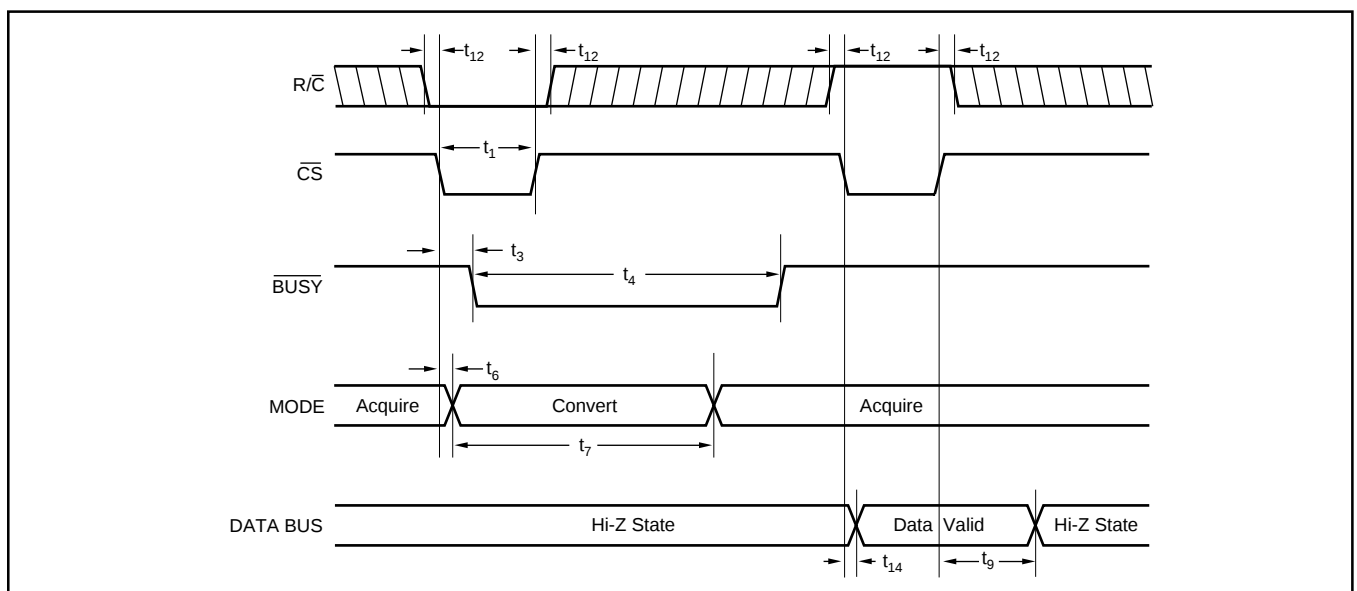

FIGURE 4. Using $\overline{CS}$ to Control Conversion and Read Timing.
NOTES: (1) LSB means Least Significant Bit. For the 12-bit, $\pm 10\text{V}$ input ADS7804, one LSB is 4.88mV. (2) Typical rms noise at worst case transitions and temperatures. (3) As measured with fixed resistors shown in Figure 4. Adjustable to zero with external potentiometer. (4) Full scale error is the worst case of -Full Scale or +Full Scale untrimmed deviation from ideal first and last code transitions, divided by the transition voltage (not divided by the full-scale range) and includes the effect of offset error. (5) All specifications in dB are referred to a full-scale $\pm 10\text{V}$ input. (6) Full-Power Bandwidth defined as Full-Scale input frequency at which Signal-to-(Noise + Distortion) degrades to 60dB, or 10 bits of accuracy. (7) Recovers to specified performance after 2 x FS input overvoltage.